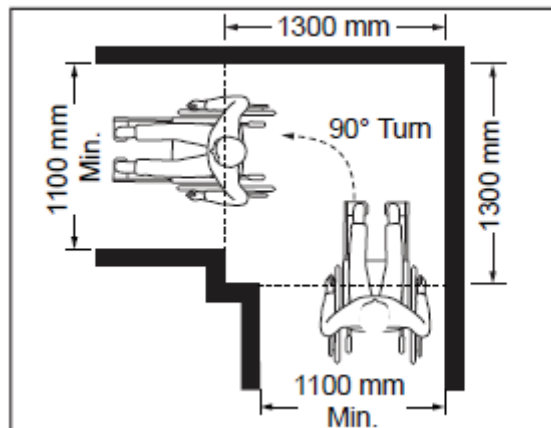

Figure 56: Minimum Width of Other Routes
- **Other routes:** 1100 mm (Figure 56)